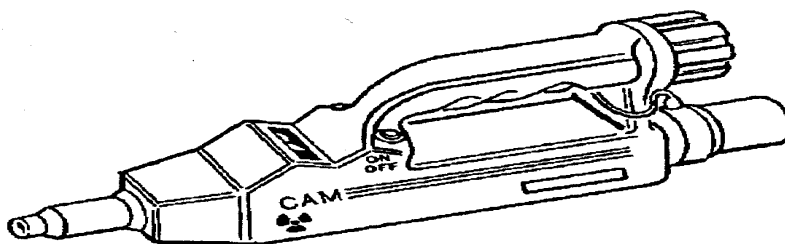

Figure 5-9. Chemical Agent Monitor
b. The chemical agent monitor (CAM) (Figure 5-9) is designed to be used to detect chemical agent vapor and provide a readout of the relative concentration of vapor present. It can be employed to monitor-